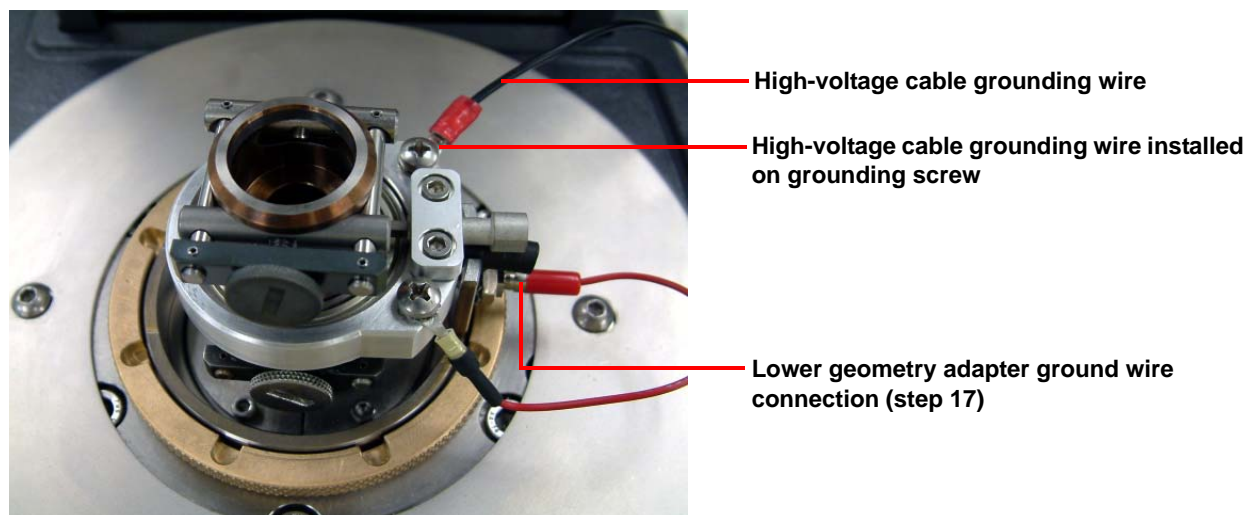

Figure 22 Lower geometry adapter and lower housing ground connections.
- 17** Insert the lower geometry adapter ground wire into the lower housing ground connector. Refer to Figure 22 to see this connection.